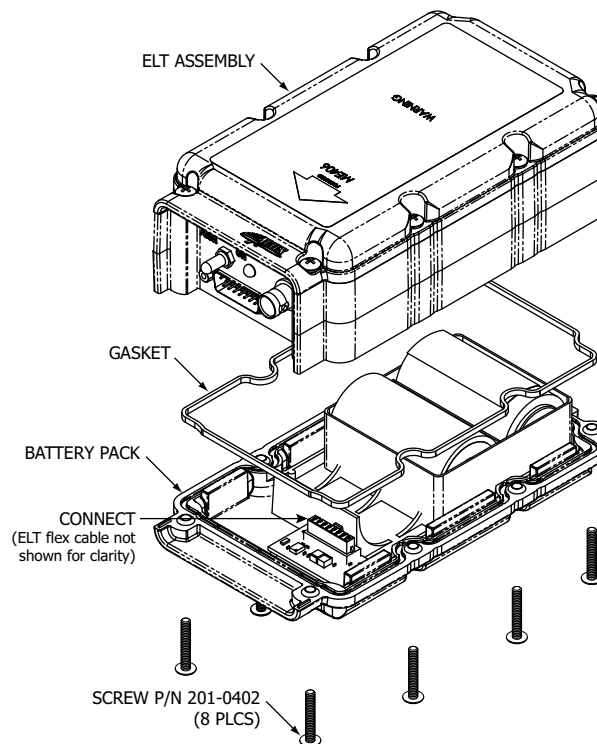

Figure 24 Battery Pack Installation
- (1) This subtask applies to reinstallation of an existing battery that was removed for inspection and testing.
- (2) See Figure 24 Battery Pack Installation.